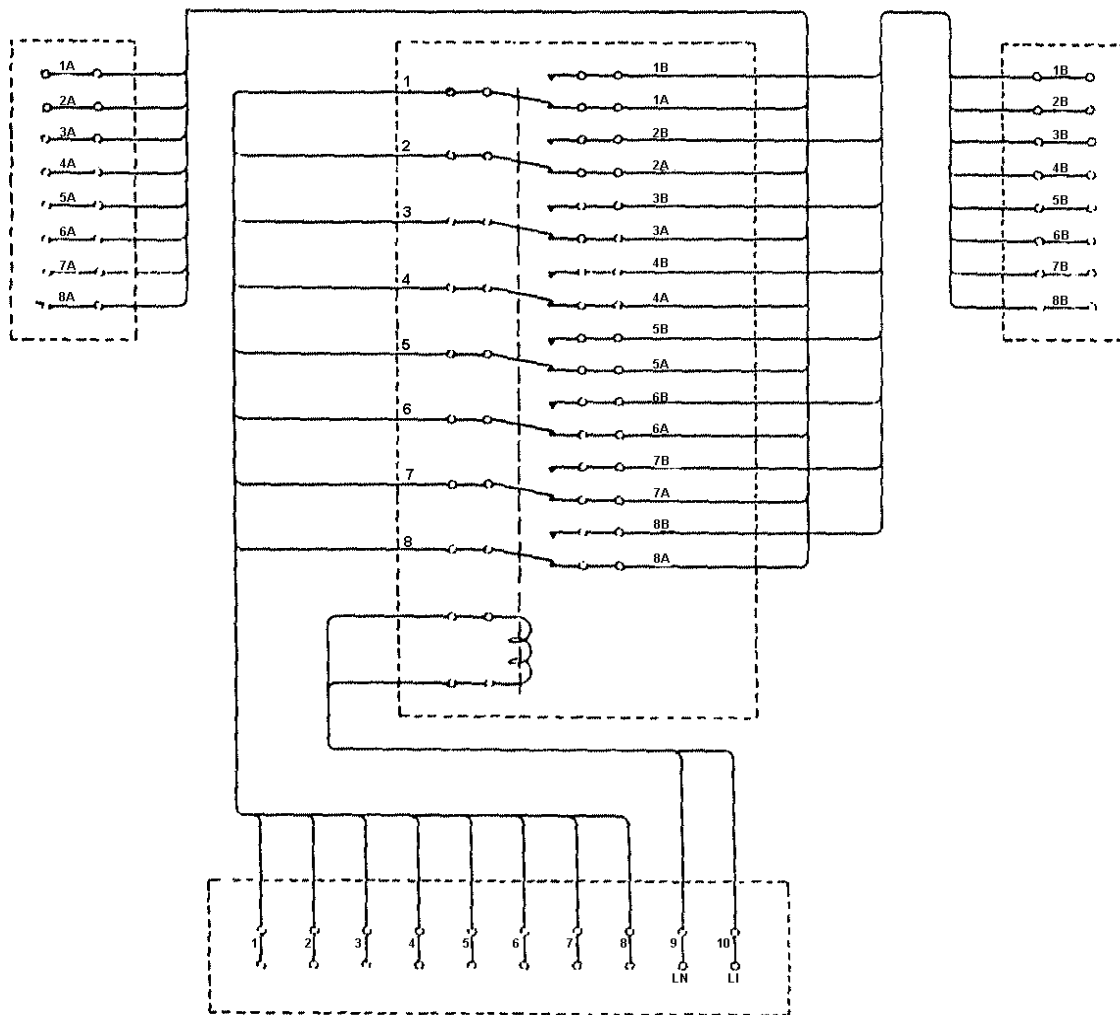

Figure 2, Transfer Relay Cabinet Schematic Wiring Diagram.
- There are two locations at which airfield lighting is remotely controlled. The primary location for remote control is the cab of the control tower. The alternate or secondary remote control location normally will be in the airfield lighting vault. Only one remote location can be in control at any given time. In order to swap location of control, a transfer switch is used. The switch is a single-pole, single throw switch. That means that there is one source of power and only one place to send the power, the transfer relay coil. The transfer relay is spring loaded so that the contacts that energize the tower MA-1 panel are closed when no power is flowing to the relay. When the transfer switch is closed (in the vault position) the relay energizes, pulls in the second set of contacts energizing the vault MA-1 panel, and opening the first set of contacts that feed the tower MA-1 panel causing it to become de-energized. This switch can only be in the tower position or the vault position, and only one MA-1 panel can be energized at a time. (Figure 2).